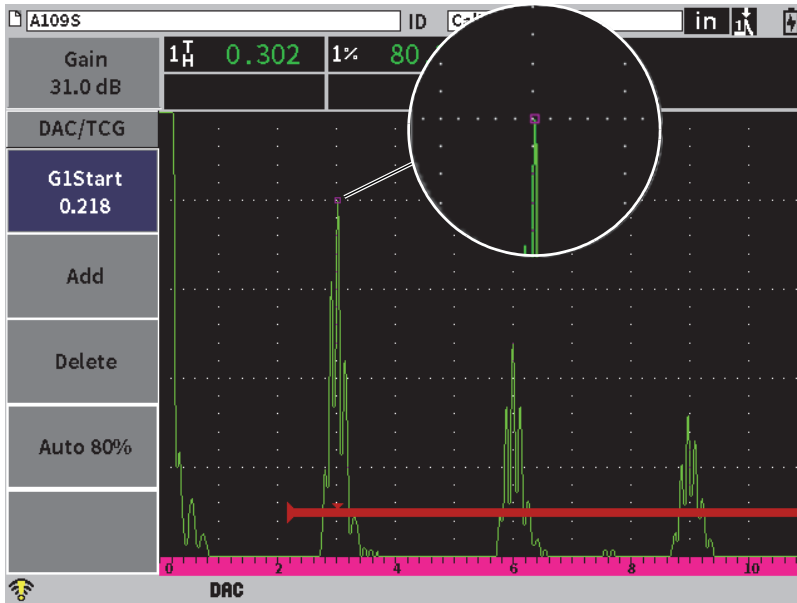

Figure 11-4 First DAC point
2. Press the Tab key to highlight **Add**, and then press the Enter key to add the first point (see Figure 11-4 on page 158).